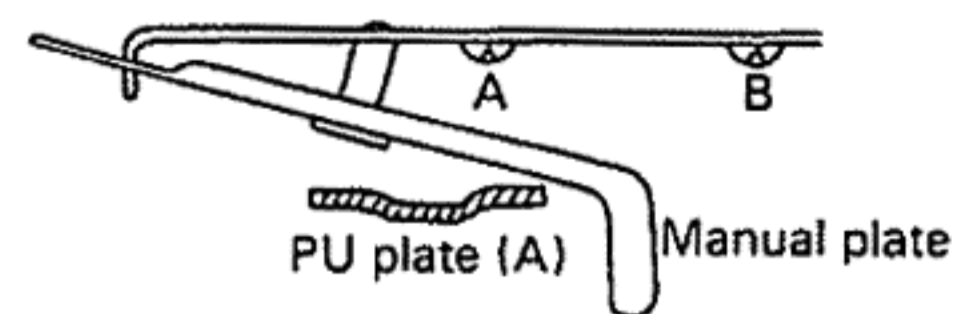

Figure 9
- 2) When loosening screw A and B (See Figure 9) for replacing the Plate, refer to the following adjustment.